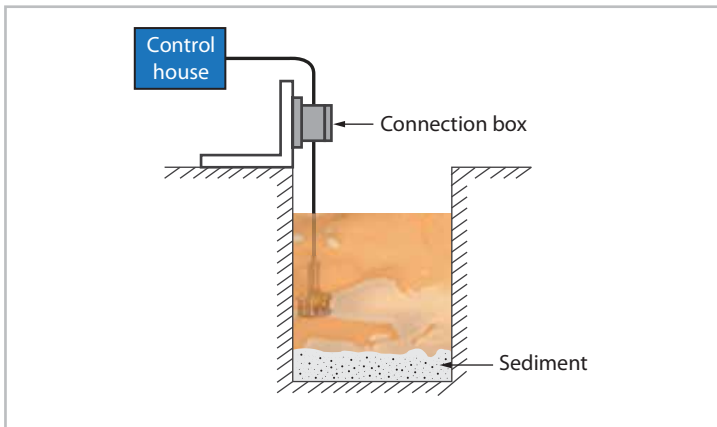

Fig. 2. Installation in static liquid
- Fig. 2 shows the installation method used in case of static liquid.